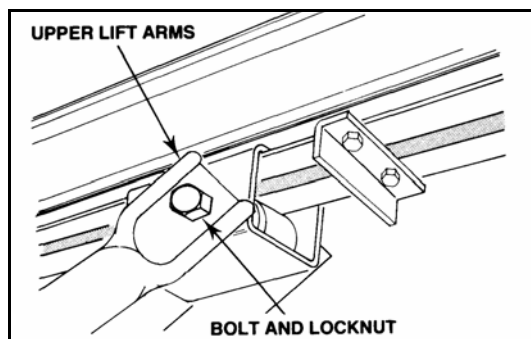

Figure 3.13
9. Attach upper lift arms to roller track shoe with one 5/8" x 6-1/2" bolt and locknut. **Do not overtighten.** Tighten snug only; this bolt acts as a pivot point (Figure 3.13).